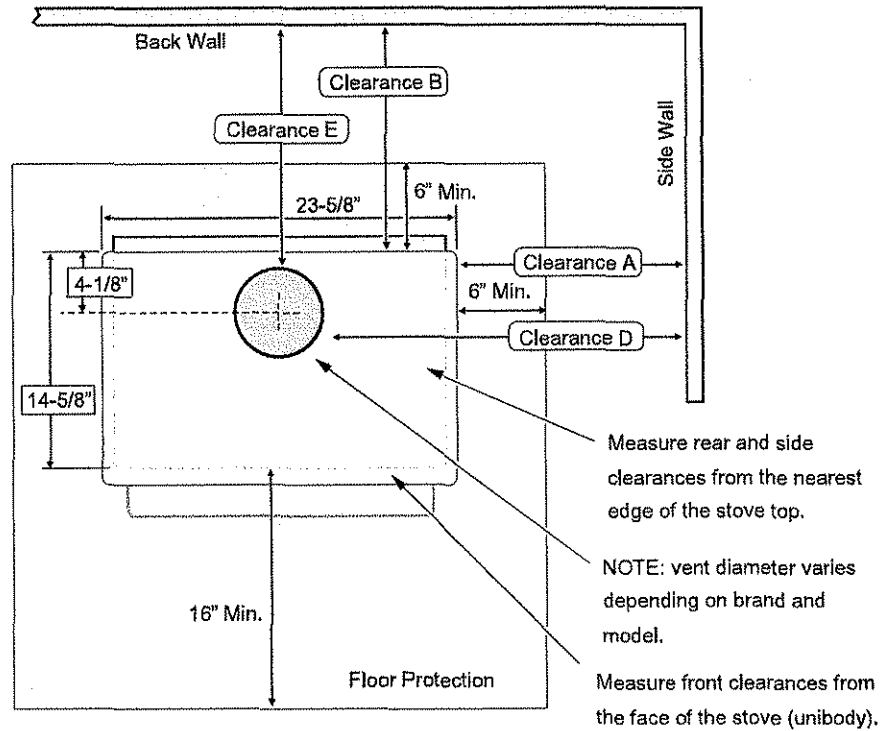
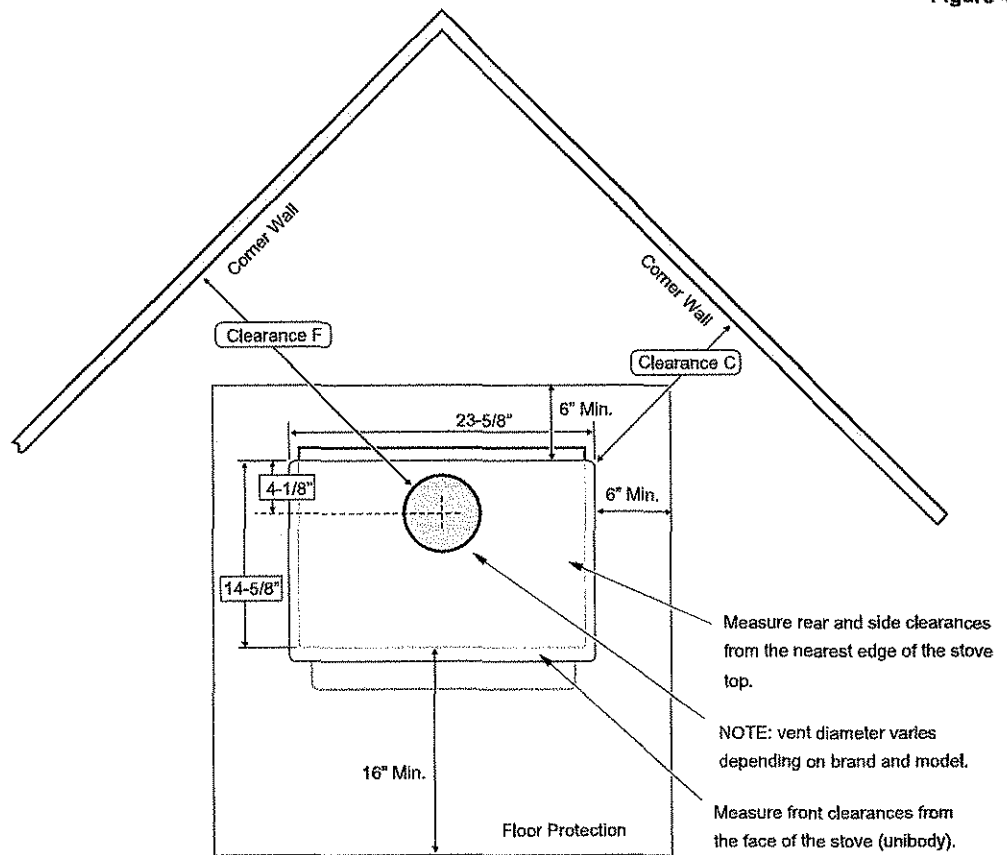

Figure 4
Figure 5
- Floor protection must extend 6" to the sides and rear of the stove and 16" to the front of the stove (35-5/8" wide by 36-5/8" deep - see Figure 4 and Figure 5).
- The following clearances must be met (see Figure 4 and Figure 5)